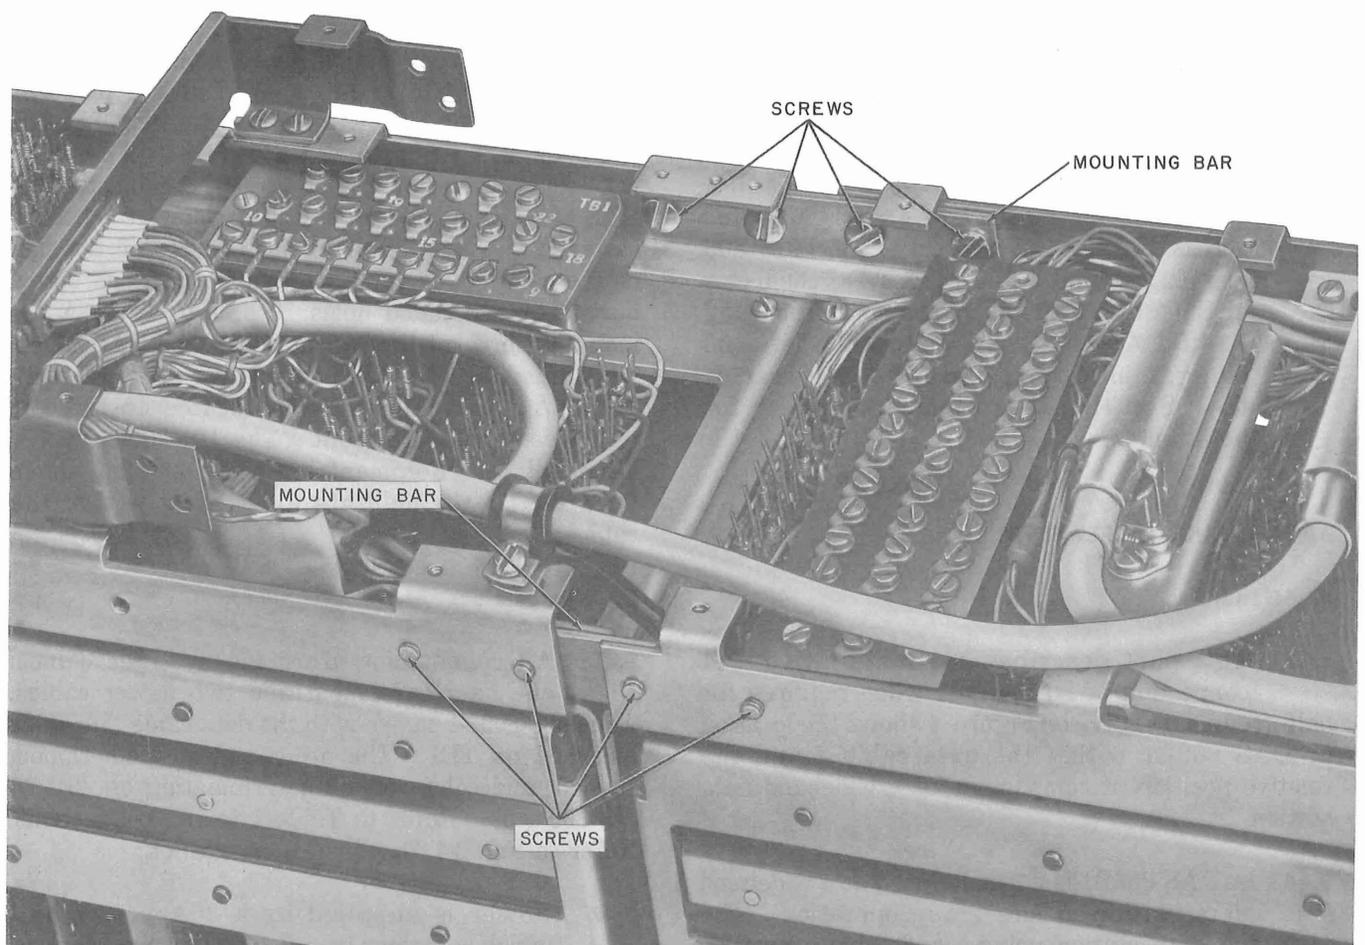

Fig. 13—Assembly of Data Set 404B1 and Data Auxiliary Set 806
3.37 The DS 404B1 is mounted on the inside of the data set cabinet as shown in Fig. 4 and 5. Both DS 404B1 and DAS 806 are fastened together as a unit by means of mounting bars (Fig. 13). After the two sets are connected, the mounting